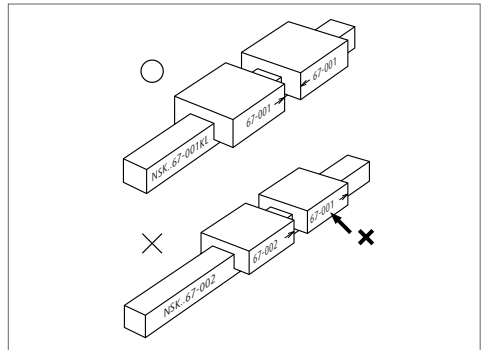

Fig. 10.28
- > In case that the slides had to be removed from the rail, confirm their serial numbers and the directions of arrows for re-assembly (**Fig. 10.28**).